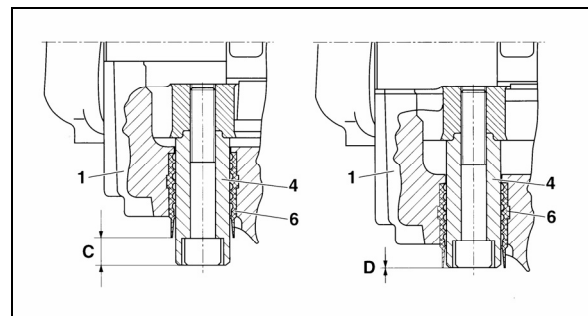

FIGURE 25: BRAKE PAD CHECK
Brake pads have to be checked on a regular basis depending on the vehicle operation. The remaining thickness of the pads should never be less than 3/32 in (2 mm). To check pad condition without removing the wheel, verify the position of guide bushing (6) relatively to guide sleeve (4) (see Fig. 25). When guide sleeve is in alignment with guide bushing, brake pad thickness has to be checked more precisely with the wheel removed. When replacing brake pads, all four pads on an axle have to be changed at the same time. There is no inner or outer pad, since all pads are the same. Once removed, worn pads should be replaced in their original position.